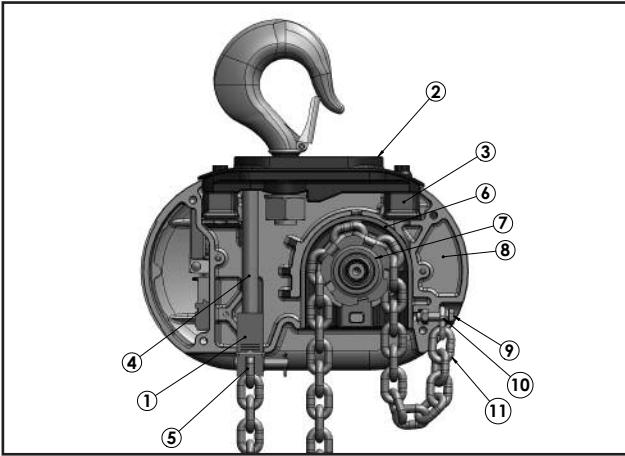

Figure 7. Attaching Load Chain Double Reeved Models
Remove the hook suspension,(2) suspension screws, (1) dead end pin, (1) washer, and (1) cotter pin from the packaging. It should be noted that the suspension includes a dead end bolt and block for supporting the dead end of the load chain as shown in Figure 7.
Place the suspension assembly into the recess on top of the hoist. The dead end block should project through the bottom of the hoist with the pin hole and slot aligned to the underside of the hoist as shown in Figure 7. If these are not aligned as shown, lift the head of the bolt from the hex recess in the adapter and turn the bolt and block assembly and reseat the bolt head to obtain the proper alignment. **Do not change the position of the dead end block on the bolt to attain this alignment.**
The dead end of the load chain is temporarily positioned (a few links from the end) by a wire tie. Do not remove this tie before attaching the chain to the dead end block. (See Fig. 7)